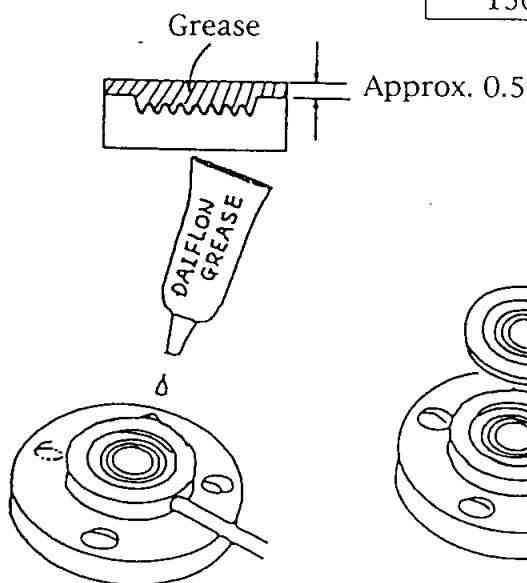

Figure 5.4
2. Apply about 10 g (about 1/4 of one tube) of Diaflow Grease (No. DG-203, Daikin Kogyo Co., Ltd.) to the diaphragm surface and the gasket contact surface, spread it with your fingers until the thickness on the gasket surface is about 0.5 mm (refer to Figure 5.4.).